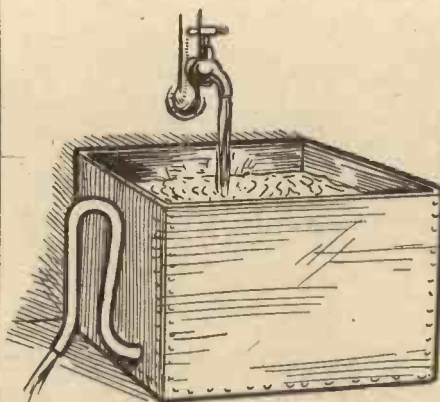

Fig. 5.—A photo washing tank with siphon outlet.
The sharpness, or "definition" as it is usually called, can be improved by arranging a diaphragm in front of the lens with a relatively small hole as shown in Fig. 5. This, however, will reduce the amount of light passing through the lens, and so necessitate longer exposures, i.e., the lens is slower but gives a sharper picture. A small aperture also gives a greater "depth of focus," and this is the reason why modern rapid lenses have to be focussed very accurately, i.e., objects a very little nearer or further from the camera than a certain distance will not be sharply defined. In many cases this is an advantage, but this effect cannot be altered by design and a large aperture will necessarily give less depth of focus.
as is usually expressed, they work at an aperture of F/8. The single lens in Fig. 5 works satisfactorily at about F/16, and is used on cheapest hand cameras. In two lenses of similar focal length, one with an aperture of F/8 will be four
An interesting application of the siphon is that made use of by the photographic washing tank shown in Fig. 5. The negatives are held in grooves inside the tank
Tools made of cast steel, and used for many different purposes, such as roughly shaping metal parts prior to filing, chipping out slots or steam ports in a cylinder casting, and cutting off pieces of sheet metal or rod. Cold chisels in most common use are made in the four patterns shown in Fig. 5. The flat chisel (A), with its broad, straight cutting edge, is used for cutting off pieces of rod or sheet metal, and for removing the rough outer surface of a casting preparatory to
Fig. 5.—Various cold chisels—the flat, cross-cut, half-round, and diamond point. (Right) The centre punch. Automatic centre punches are also obtainable which deliver their own blow, and do not, therefore, need a hammer